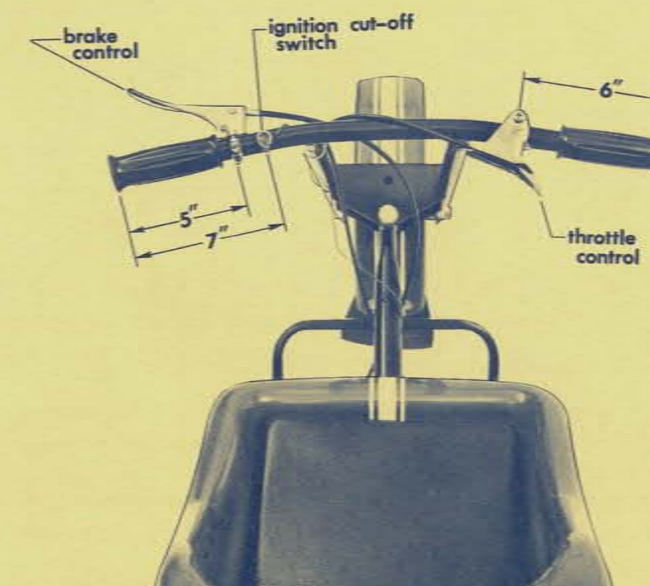

Figure 1
2. Attach front wheel to front fork assembly using (1) $1\frac{5}{8}$ " bushing on each side of wheel and securing with (1) $\frac{5}{8}$ x $7\frac{1}{2}$ cap screw, (1) $\frac{5}{8}$ flat washer and (1) $\frac{5}{8}$ lock nut. (See illustration.) Do not overtighten as this will cause wheel bearing failure. Wheel must turn freely.
3. Insert bronze bushings in pivot tube of frame for front fork assembly. Attach front fork assembly to front frame pivot tube with (1) $\frac{5}{8}$ -11x $6\frac{1}{2}$ hex. head cap screw and (1) $\frac{5}{8}$ lock washer. Tighten enough to remove play, but not so tight to restrict steering movement.
4. Slide thumb throttle control assembly onto right handle bar (approx. 6" from end of handle bar). Do not tighten at this time. Slide handlegrip onto right handle bar until fully seated. Soaking grip in warm water for a few minutes will ease assembly. Tighten throttle control assembly allowing sufficient space so that handle grip does not restrict full throttle control movement. (See Fig. 1.)